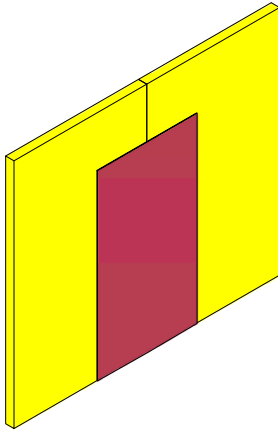

Figure 18
1. Prime the joint area with a generous amount of primer, out 2 to 5 inches on each side, with FLASHING PRIMER. Allow to dry until tacky. (See Figure 18)